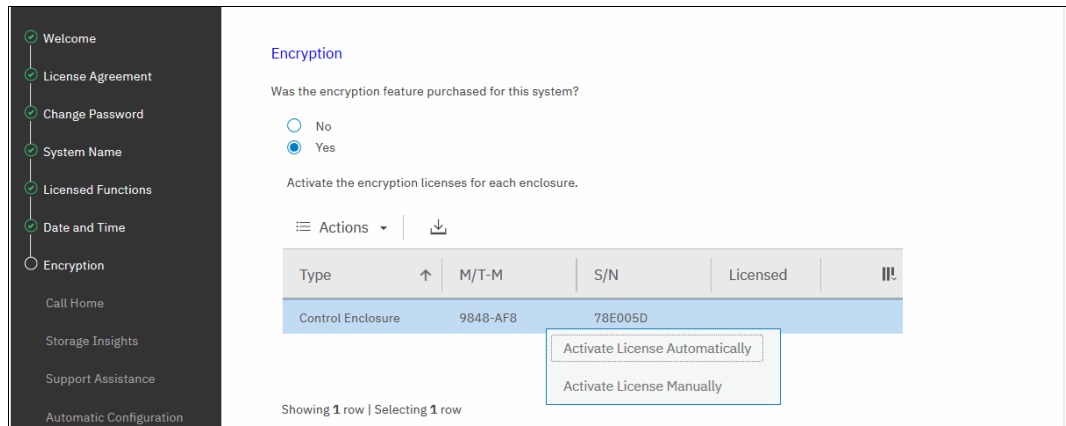

Figure 3-16 System Setup: Encryption activation
- Select whether the encryption feature was purchased for this system, as shown in Figure 3-16.